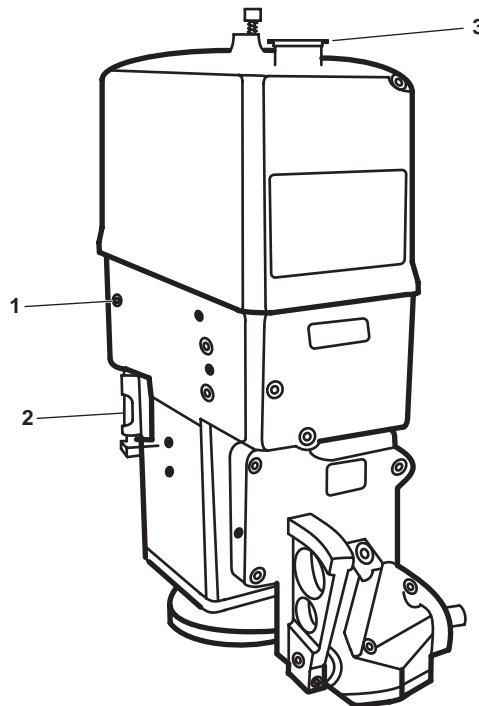

Figure 11. Governor
- b. Pull OUT on the governor's alarm switch plunger (figure 11, item 1) to prevent the engine from starting unexpectedly.
23. Push IN the governor's alarm switch plunger (figure 11, item 1).
24. Check that the governor oil level is at the mid-point in the sight glass (figure 11, item 2). If the oil level is low, add oil through the fill cap (figure 11, item 3). Refer to TM 55-1925-208-24 or the maintenance supervisor for the oil specification.